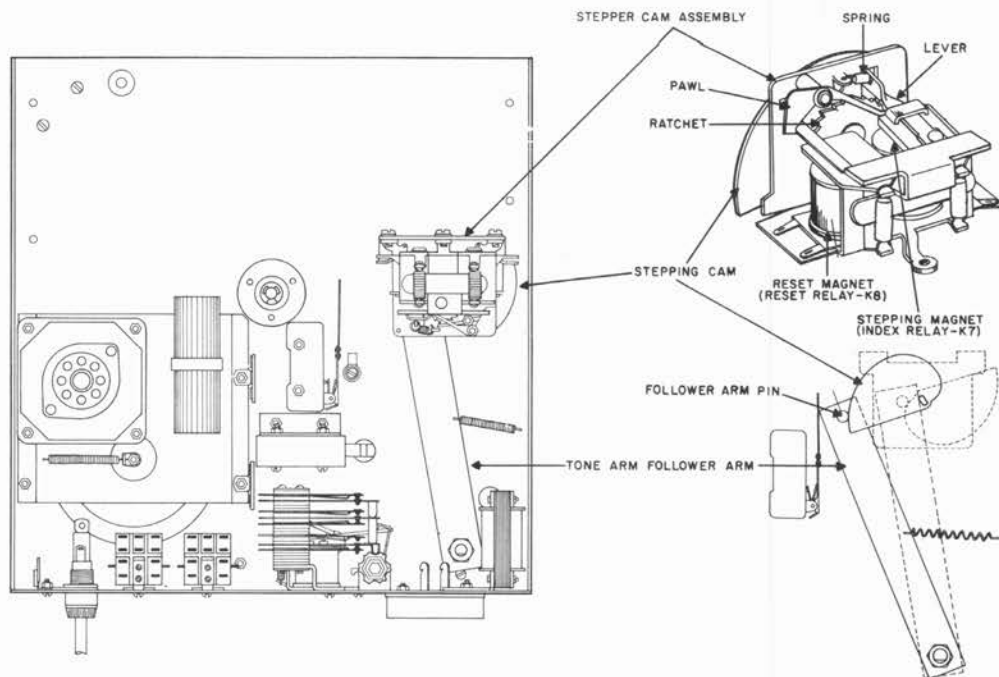

Figure 4. Motorboard (Bottom View).
2.10 The tone arm steps automatically, at the completion of each cycle, to the next channel. The stepper cam assembly (Figure 4) consists of a stepping magnet, a reset magnet, and a mechanical system consisting of ratchet, lever, spring and pawl to convert the reciprocating motion of the magnet armature to the rotary motion of the cam. Each time the cam advances against the spring loading, it is held in the new position by engagement of the
2.11 As shown in Figure 4, movement of the stepping cam imparts a radial movement to the tone arm follower arm because of engagement with the follower arm pin. The tone arm follows a path on the upper side of the turntable identical to that of the follower arm on the underside of the motorboard. Thus, a pulse of electrical current applied to the stepping magnet coil will advance